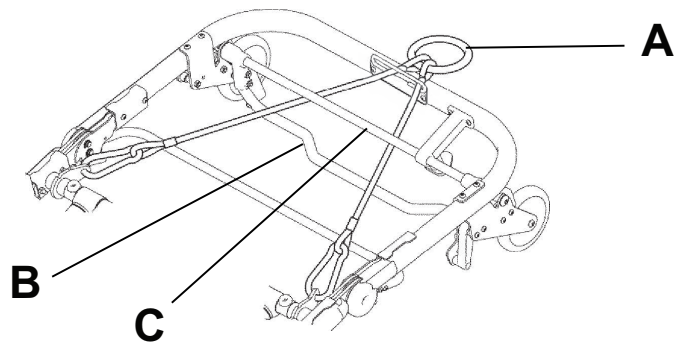

Figure 20 – Attaching the tow package cables
1. Clip the winch cable to the ring (A) on the tow package (Figure 20).
3. Attach the cables above the red release bar (B) and below the black bar (C) (Figure 20).